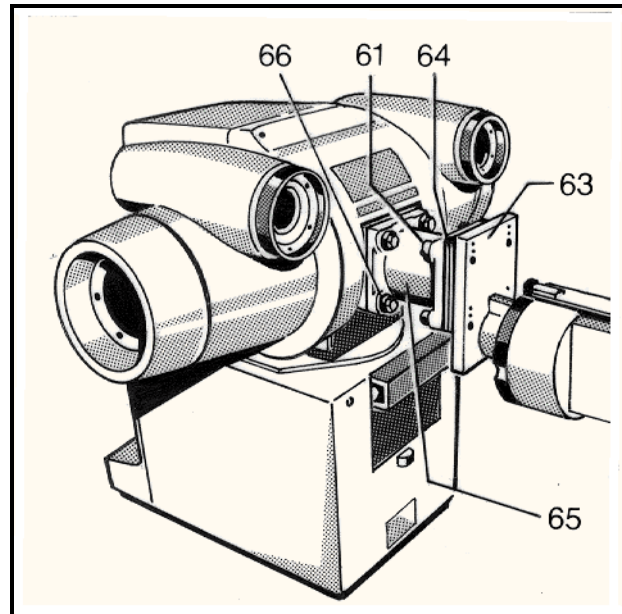

Fig. 16
Fasten spacer (Fig. 16/item 65) to X-ray tube with screws (item 66) and mount to tube support arm (item 63).